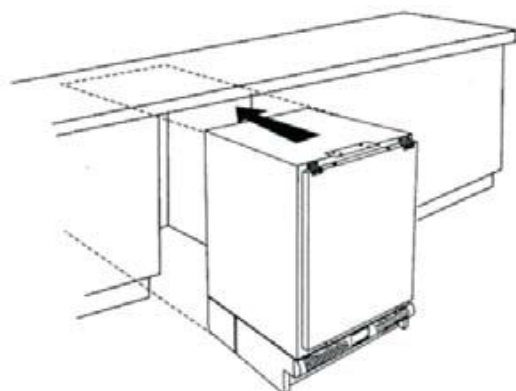
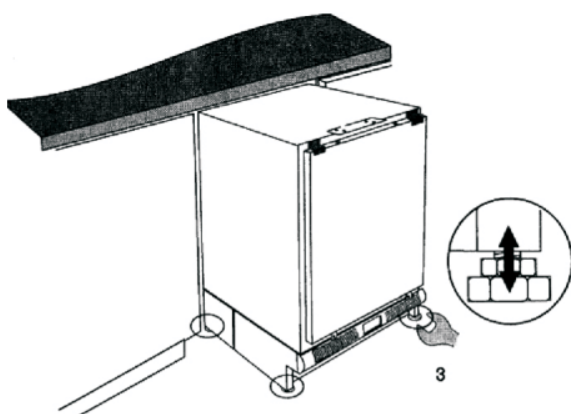

Figure 2
Figure 3
2. After inserting the appliance in the appropriate furniture (Figure 2), you must adjust its height using the 4 adjustable feet (Figure 3). The height can be adjusted from 82 to 87 mm.